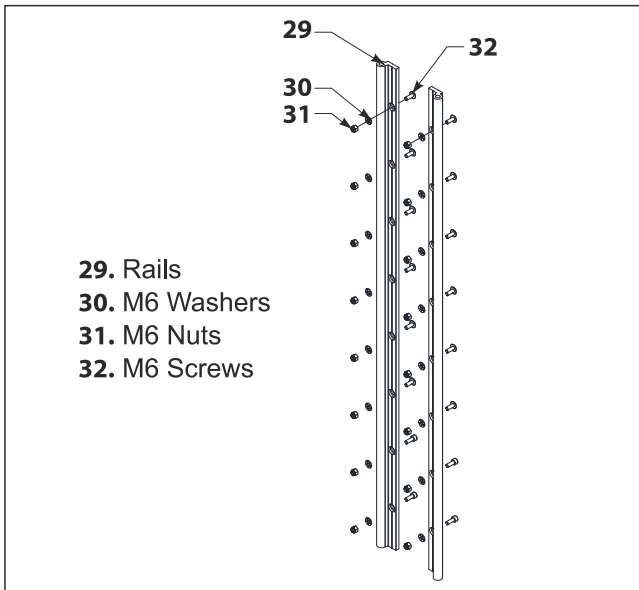

Figure 6-19. Pad Replacement
8. To replace a pad, loosen screws (32) see Fig. 6-19, nuts (31) and washers (30).